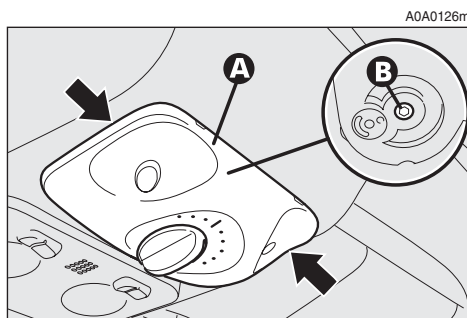

fig. 157
- apply leverage in the points shown by the arrows and remove the plate (**A-fig. 157**);